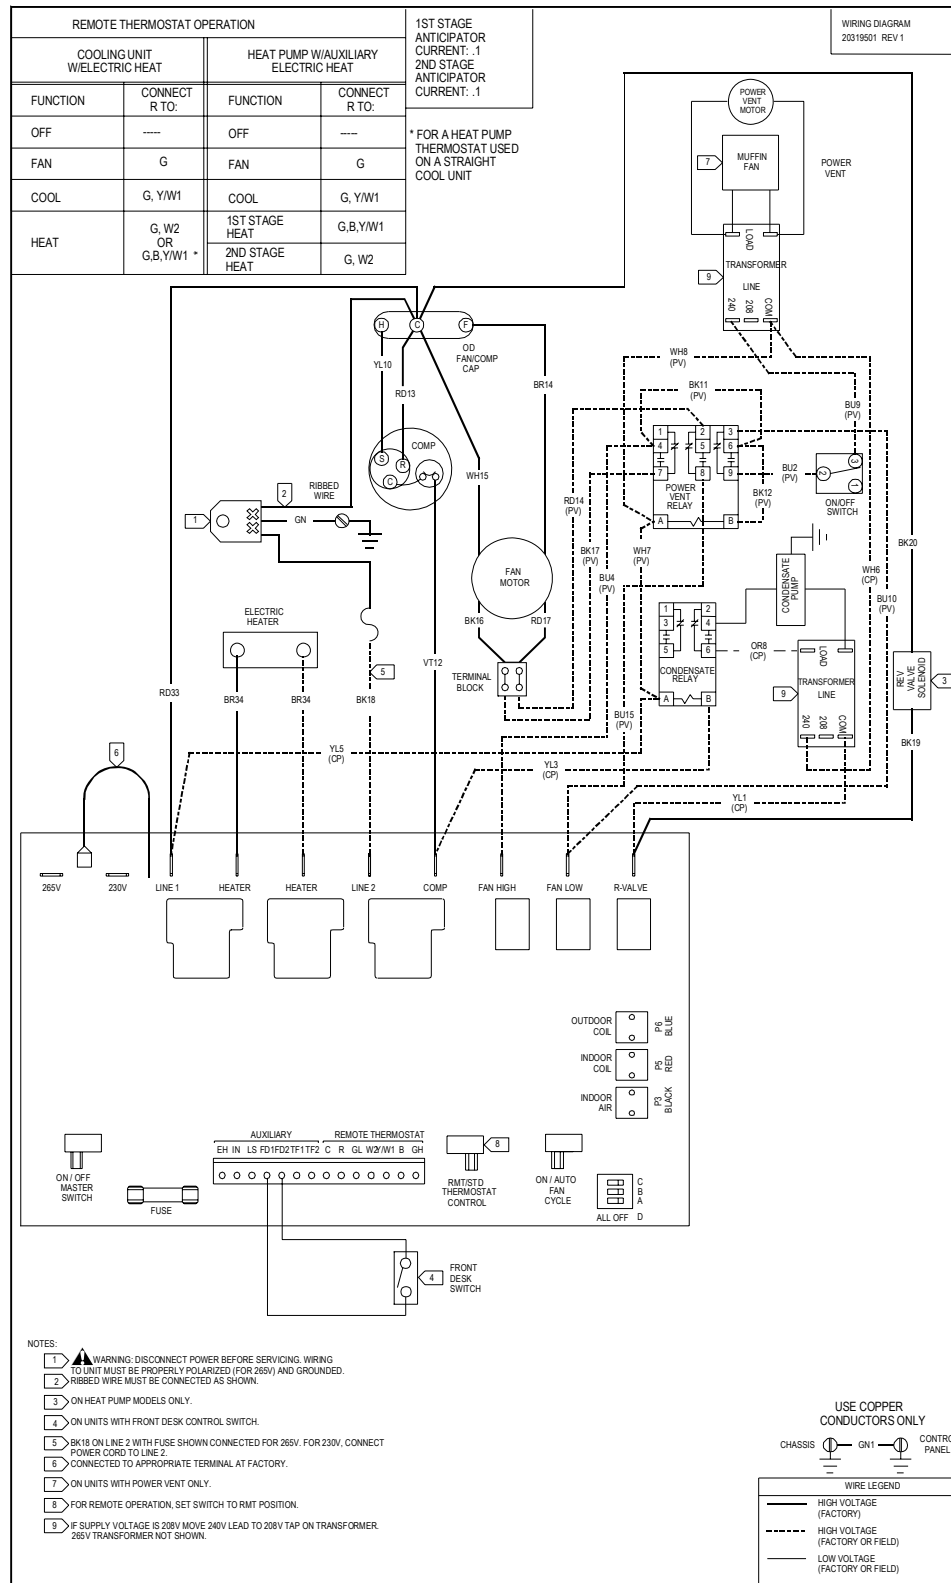

**Figure 11**
19. Using two #8 screws that are provided, screw the transformer to the control panel in the transformer mounting holes provided in the panel (Figure 11).
20. Mount the relay in one of the three relay mounting holes in the control panel making sure that the threaded stud is in the smaller hole and the metal tab is in the adjacent larger hole. Screw the provided nut onto the threaded stud from the opposite side of the control panel (Figure 11).